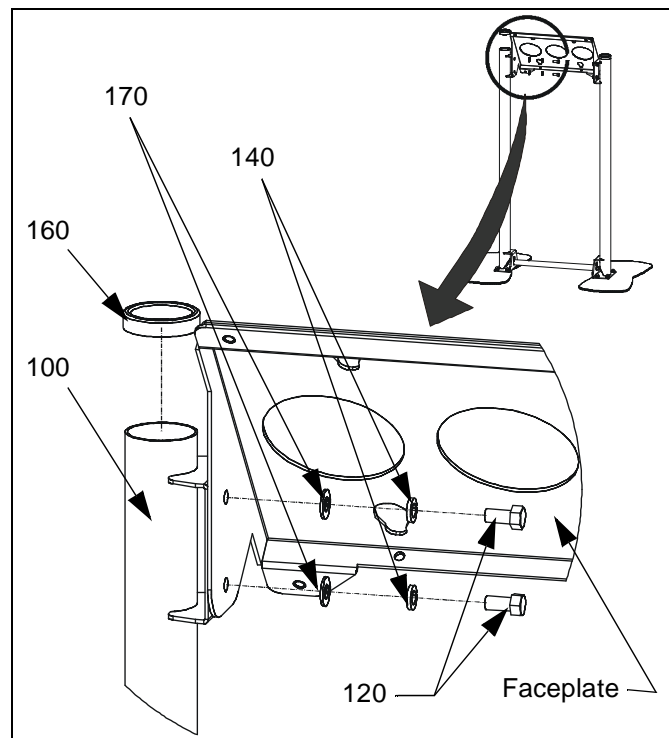

Figure 4: Assemble Faceplate to Stand Base
1. Align mounting holes in faceplate (50) with mounting holes on R.H. upright (100). (see Figure 4)
2. Secure faceplate (50) to R.H. upright (100) using two FL (170), two LW (140), and two HHCS (120).
4. Tighten hardware securing faceplate (50) to uprights (100). (see Figure 4)